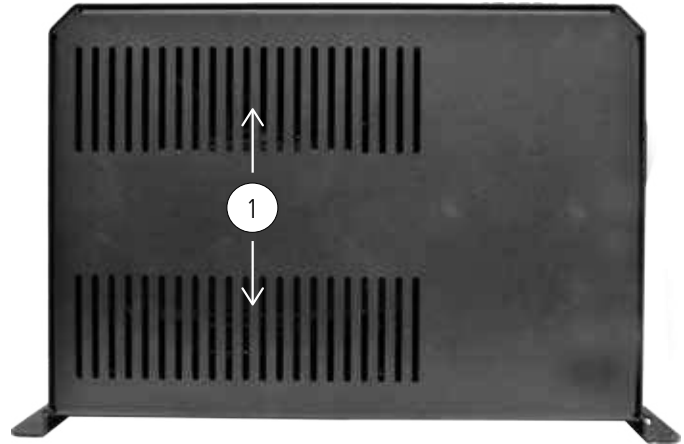

Fig 2.2 Layout-Back
2.2 MAIN UNIT: LAYOUT-BACK (FIG 2.2)
Legend for Fig 2.2